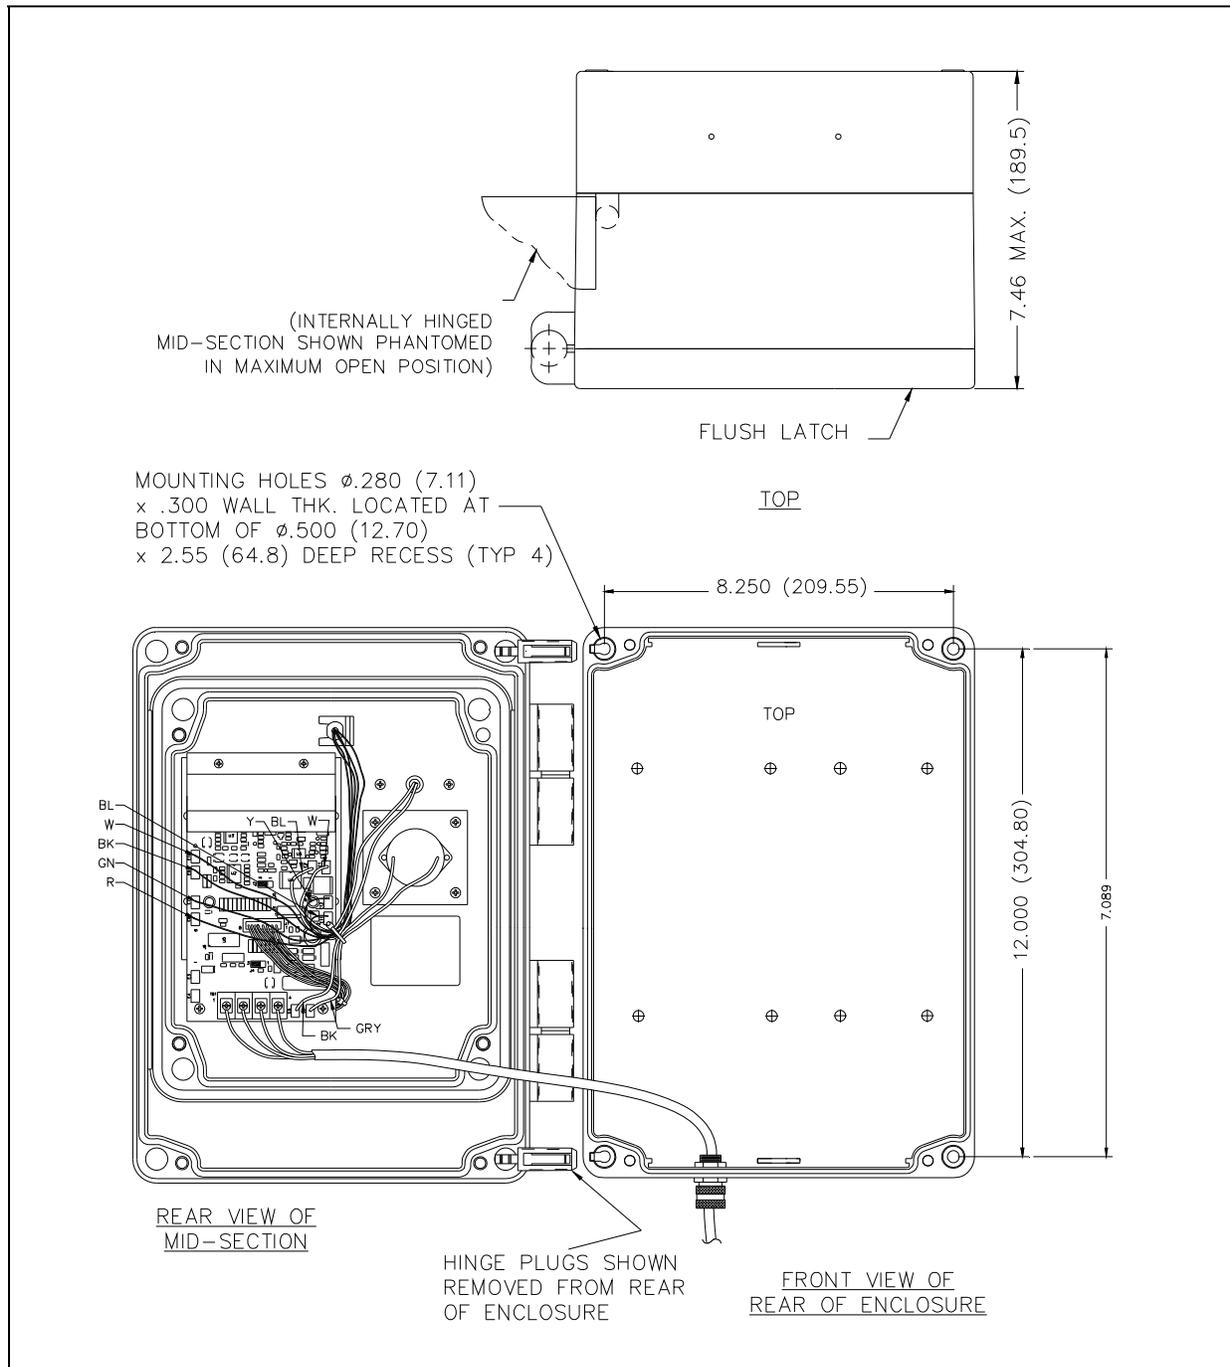

Figure 10. Model 256-001 Mounting Detail
2. Open the front half of the enclosure to the left until the length of the telephone cord inside the enclosure can be disconnected from the PCBA terminal strip (if connected). See Figure 10. Pull on the left side of the enclosure until the hinge plugs pull loose to separate the front and rear halves. Set the front half of the enclosure aside.
6. There are four mounting holes in the rear enclosure. Mount the enclosure on the wall using four 1/4-20 machine screws with nuts and washers or #14 wood screws of appropriate length for the mounting surface. Refer to Figure 10.